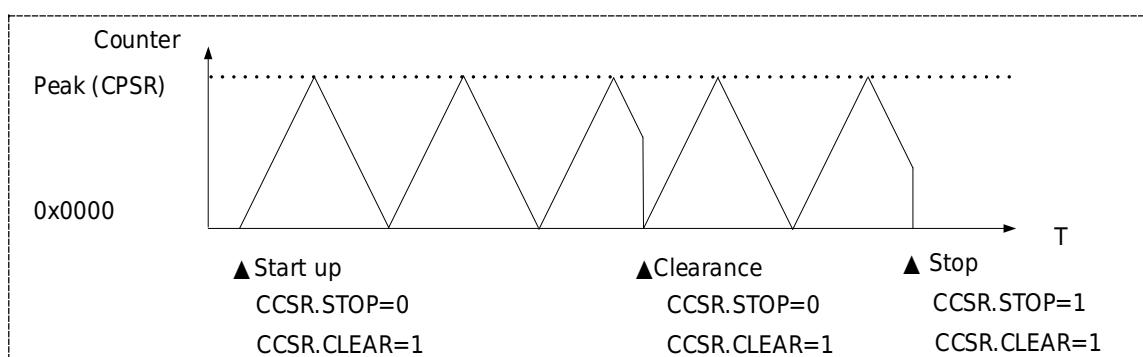

Figure 19-5 Timer4 Triangular Wave Mode Counting Action
- 2) The triangular wave counting operation and control flow are as Figure 19-5 shown.